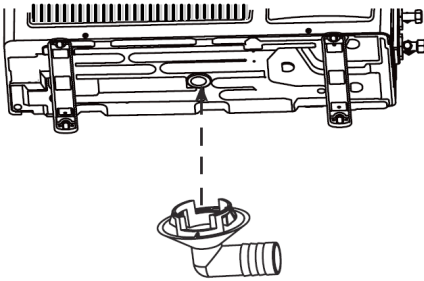

fig. 7
1. Fix the supplied fitting (Fig.7) in the appropriate hole on the base of the outdoor unit. The fastening is carried out by inserting the shaped part of the fitting in the hole.